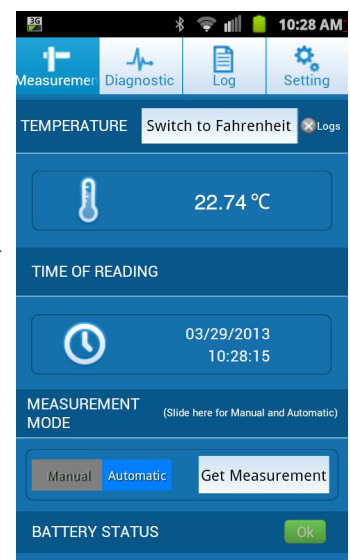

Fig. 6: Measurement Screen on a Phone
6. Select the Measurement Icon to open the Measurement screen (Fig. 6). Scroll to the bottom of this screen to the “Measurement Mode” button. Set the mode button to “Manual” and push the “Get Measurement” button or set the mode button to “Automatic” which takes a reading every 15 seconds. The device will then bring up a “Log Setting” dialog box and ask if you want to log the measurement data. Select “No” to display the measurements on the measurement screen of your device which also validates that you have communication between your device and the probe. Selecting “Yes” requires that you set up a “Job Site” and “Location” for the measurements – which is described later in this manual under “Settings”.